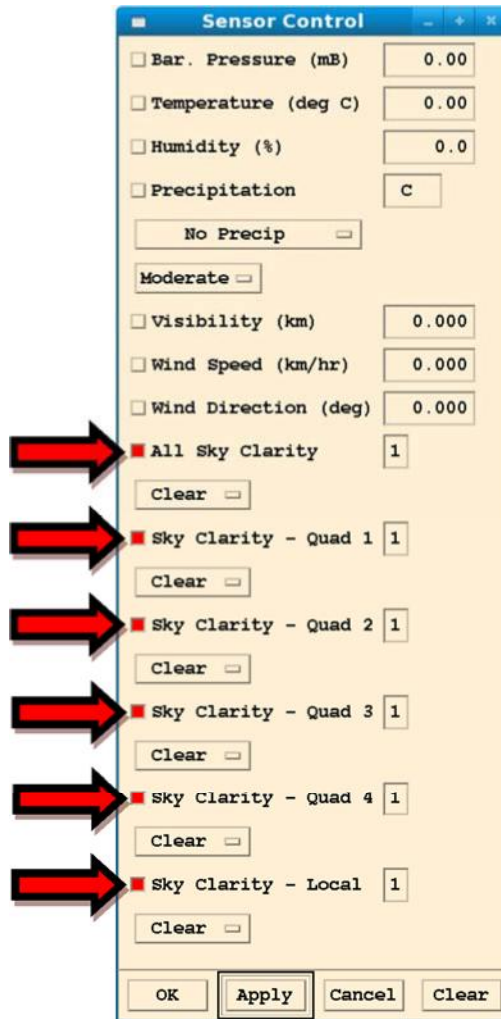

Figure 3-18: Sensor control window
d. **Control => Sensors;** Select all (6) **Sky Clarity** checkboxes (Figure 3-18).